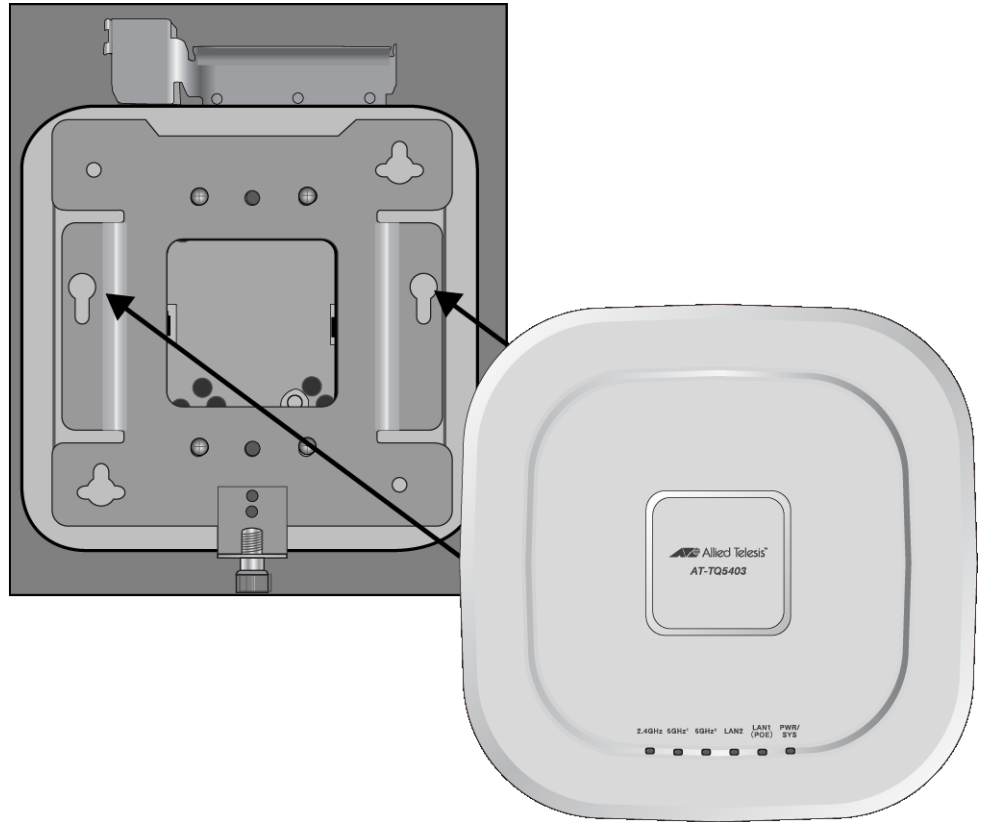

Figure 20. Installing the Wireless Access Point on the Bracket
3. Install the wireless access point on the bracket by inserting the two screws on its bottom panel into the bracket keyholes. The wireless access point fits on the bracket only one way. The LEDs have to be at the bottom of the bracket. Refer to Figure 20 on page 29.